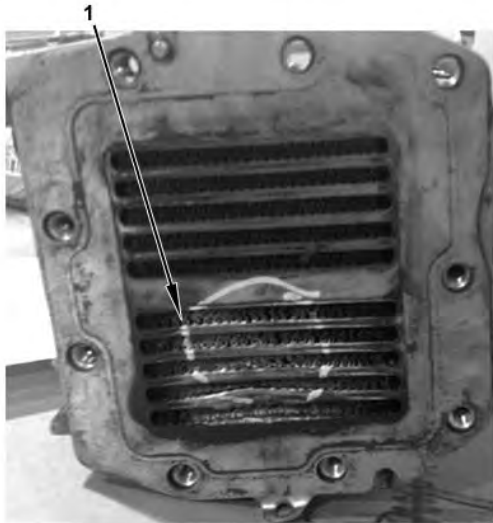

Figure 21 EGR Cooler Inlet Damage from EGR Valve Broken Shaft or Flap
26. Inspect EGR cooler inlet for damage caused by loose parts from damaged EGR valve (Figure 21). If damage is found, replace the high-temp EGR cooler. Charge EGR cooler repairs to Regular 01 Warranty and not to this AFC. Repairs coded to AFC 12905 will be disallowed.
NOTE – EGR cooler inlet damage similar to example below requires replacement of the high-temp EGR cooler (Figure 21).